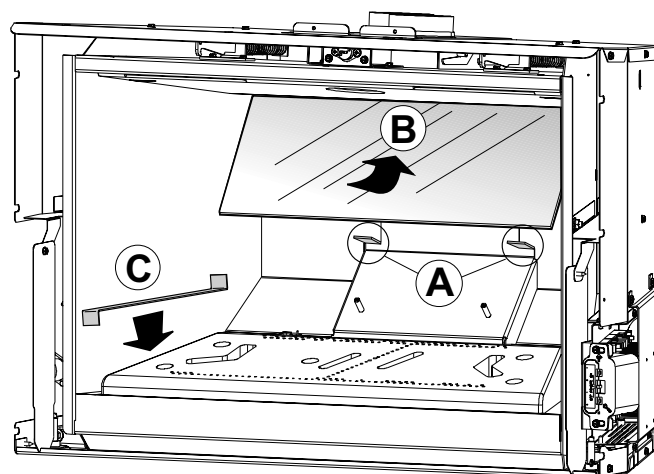

Fig. 7.15
2. Use pliers to bend the perforated tabs (A) to support the Rear Glass Panel as shown in fig. 7.15. Set the tabs at enough of an angle to keep the panel (B) lying back against the rear wall.